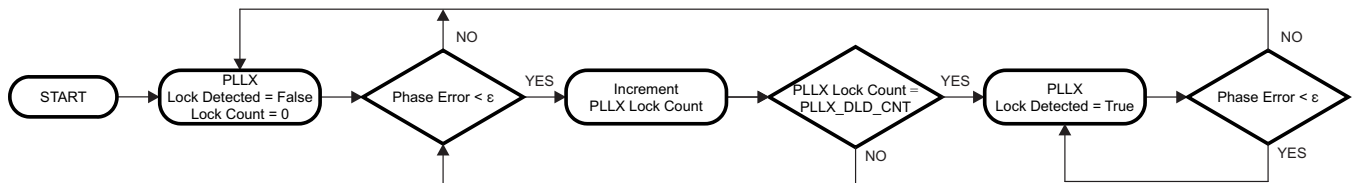

Figure 17. Digital Lock Detect Flowchart
Both PLL1 and PLL2 support digital lock detect. Digital lock detect compares the phase between the reference path (R) and the feedback path (N) of the PLL at the phase detector. When the time error (phase error) between the two signals is less than a specified window size ( $\epsilon$ ), a lock detect count increments. When the lock detect count reaches a user-specified value, PLL1\_DLD\_CNT or PLL2\_DLD\_CNT, lock detect is asserted (true). When digital lock detect is true, a single phase comparison outside the specified window causes digital lock detect to be deasserted (false). This is illustrated in Figure 17.